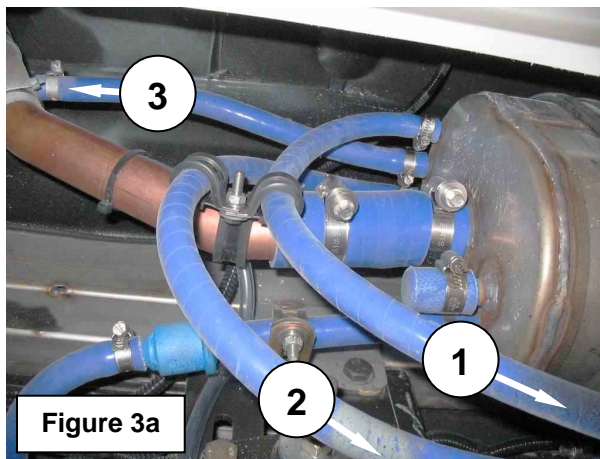

Figure 3a: Bleed lines at the expansion tank
- 1) Drain coolant from the expansion tank to below the level of the transmission cooler bleed line take-off, the engine bleed line take-off, and the filler bleed line take-off (Figure 3a).